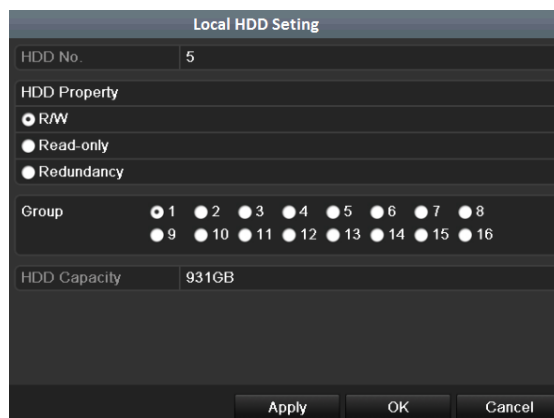

Figure 11. 17 Set HDD Property
2. Select HDD from the list and click the icon to enter the Local HDD Settings interface, as shown in Figure 11. 17.